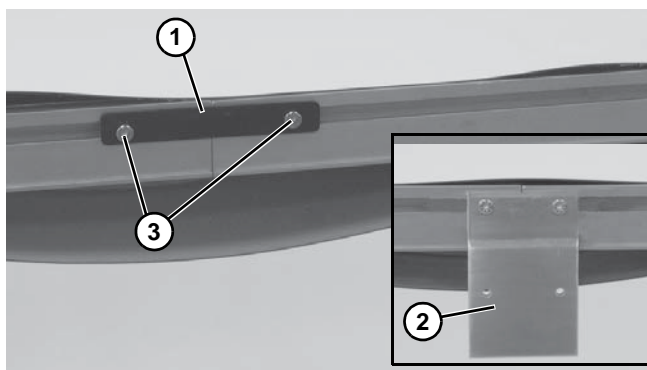

Figure 8
- Join conveyor sections and install frame connector plates (**Figure 8, item 1**) or connector/mount brackets (**Figure 8, item 2**) and screws (**Figure 8, item 3**) on both sides as indicated. Tighten screws to 60 in-lb (7 Nm).